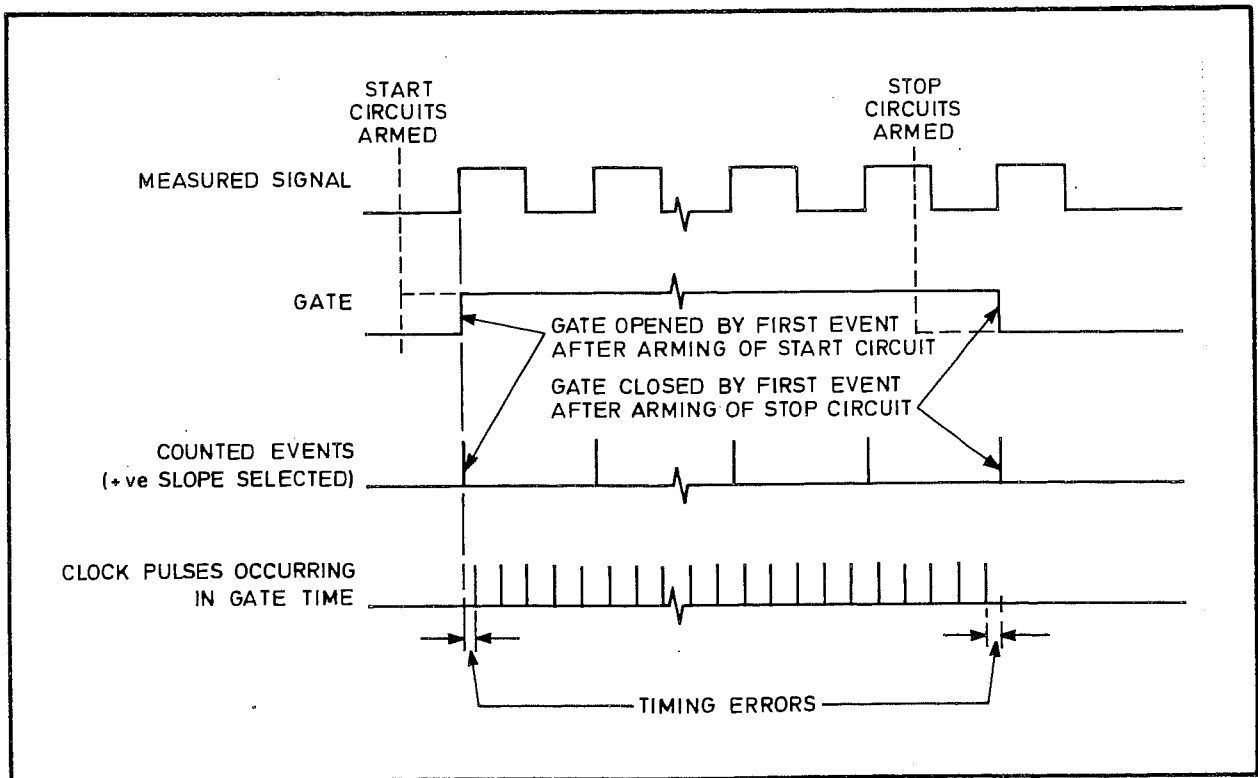

Fig. 6.10 Basic Recipromatic Counting Technique
- 86 A second register, called the TIME register, is connected to the 10 MHz timebase. This register is used to totalize the number of cycles of the timebase that occur while the EVENTS register is actually open. The first event to be accumulated in the EVENTS register arms the start of the TIME register, the very last event in the EVENTS register then arms the stop of the TIME register. This process is shown in Fig. 6.10.